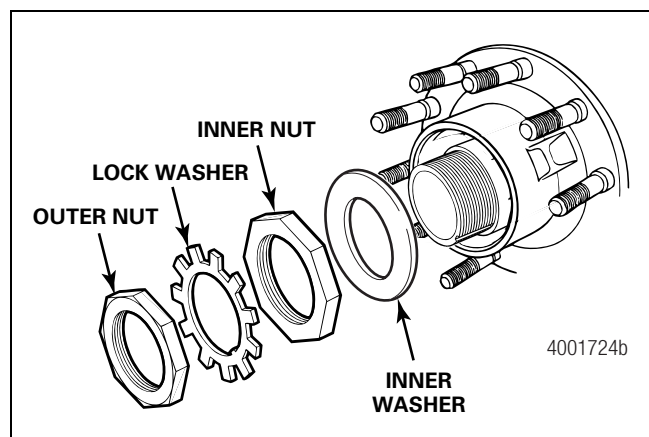

Figure 3.6
- The retention hardware consists of a four-piece system including two nuts, a bendable lock washer and a hardened washer. Earlier versions of the retention hardware did not use a hardened washer. Figure 3.6.